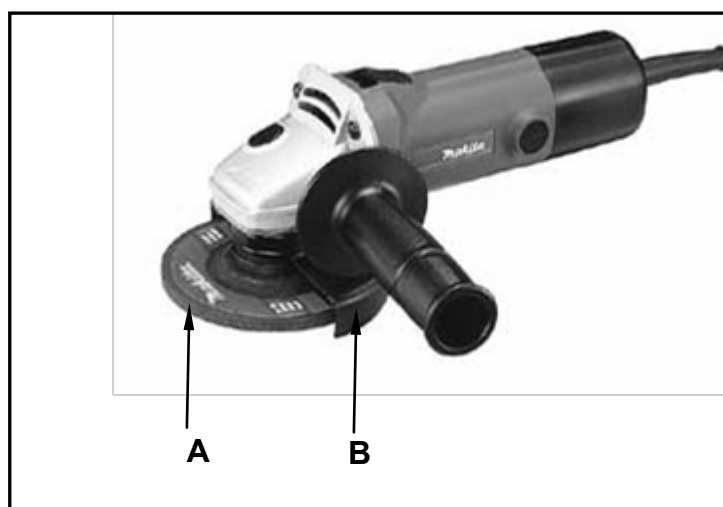

FIGURE 2.4
- 2.4 FIGURE 2.4 below is a machine that is used in the building environment.
- 2.4.1 Identify the tool in FIGURE 2.4. (1)